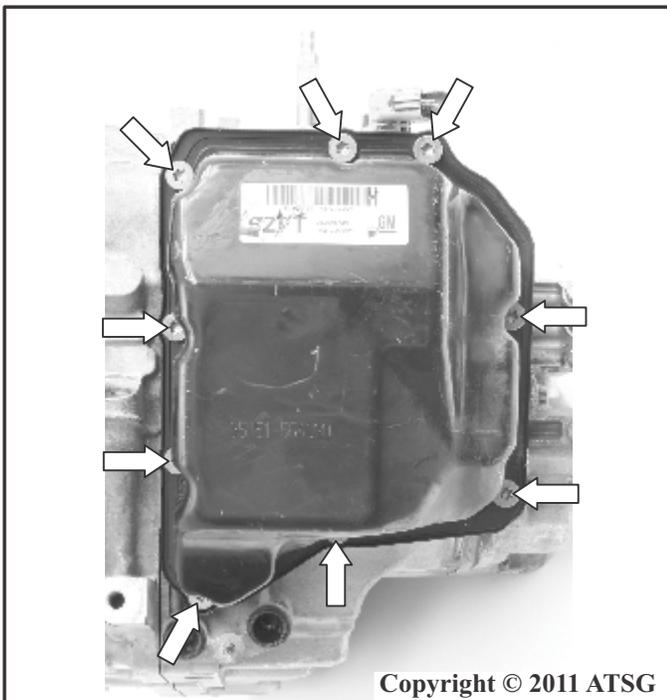

Figure 24
15. Remove the nine control valve body cover attaching bolts then remove the control valve body cover as shown in Figure 24.